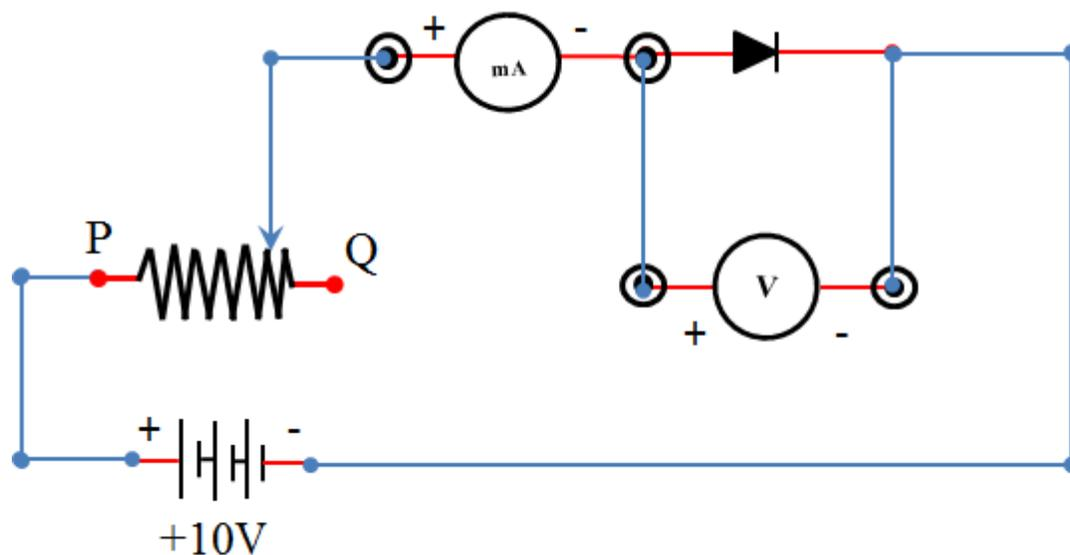

Figure 3. Circuit diagram of forward bias  $p-n$  junction diode
- Connect the junction diodes in forward bias mode as shown in Figure 3.